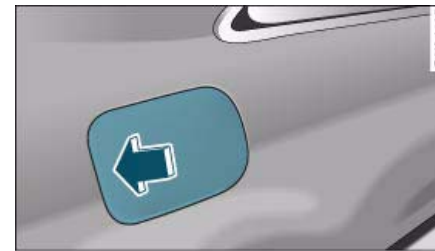

Fig. 207 Vehicle as seen from the rear right: Opening fuel tank flap
- Press the left side of the flap to open it ⇒ fig. 207 -arrow-.